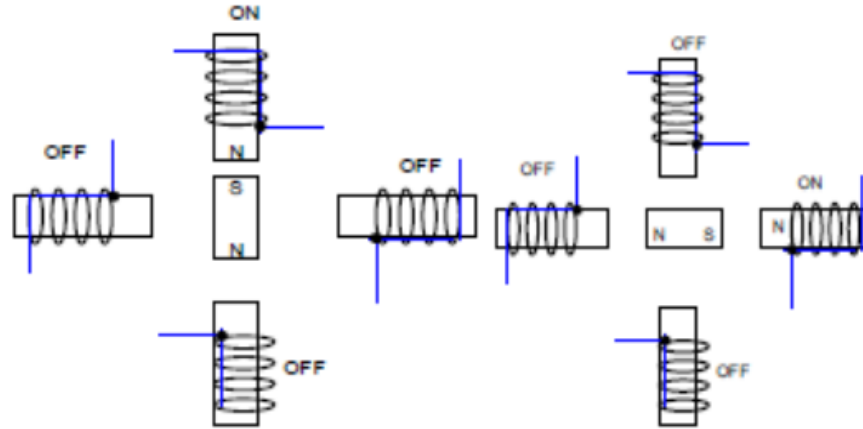

Fig 3.12 Full Stepping Method
Stepper motors consist of a permanent magnetic rotating shaft, called the rotor and electromagnets on the stationary portion that surrounds the motor, called the stator. Fig.3.12 illustrates one step rotation of a stepper motor. At position 1, we can see that the rotor is beginning at the upper electromagnet, which is currently active (has voltage applied to it). To move the rotor clockwise (CW), the upper electromagnet is deactivated and the right electromagnet is activated, causing the rotor to move 90 degrees CW, aligning itself with the active magnet. This process is repeated in the same manner step by step upto starting position. In this example step angle is 90 degree and it will requires 4 steps to complete one rotation. This is full stepping method.